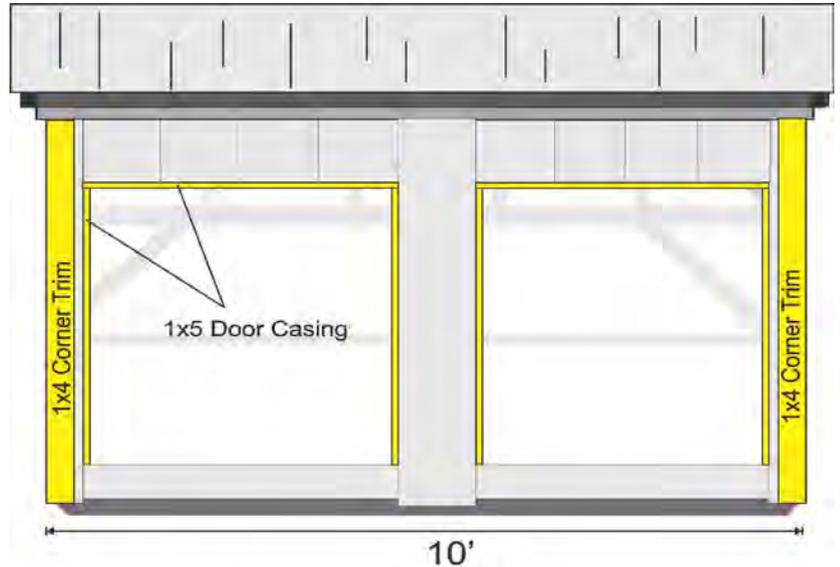

Figure 1- Corner Trim & Door Casing
**Step 1.** Attach the vertical 1x4 corner trim boards flush in the front and rear. Figure 1. To avoid a “bullet holed” look, nail in pairs using the 6d galvanized nails. Work them in unison across or down proportionately.
**Step 2.** Install the 1x5 door casing trim around the interior of the woodbin opening. This trim covers the siding and the door framing and fits around the interior of the opening. Figure 1. Nail the door casing trim with four sets of three 6d nails, one at each end and two evenly spaced in the center. Refer to the cutlist for cutting details.